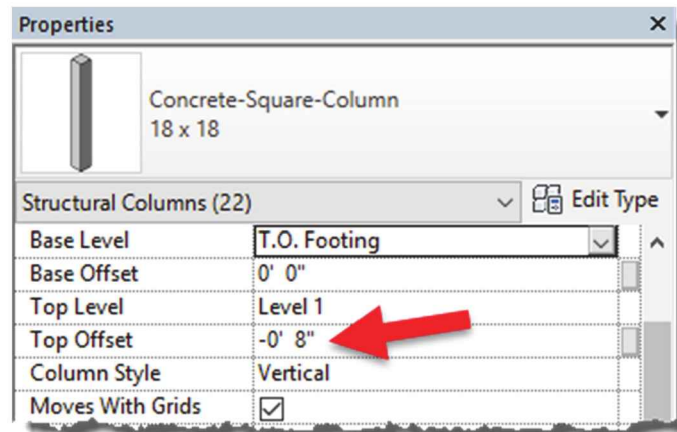

FIGURE 8-5.6
27. Set the *Top Offset* to **-8"**; be sure to add the minus symbol (see Figure 8-5.6).